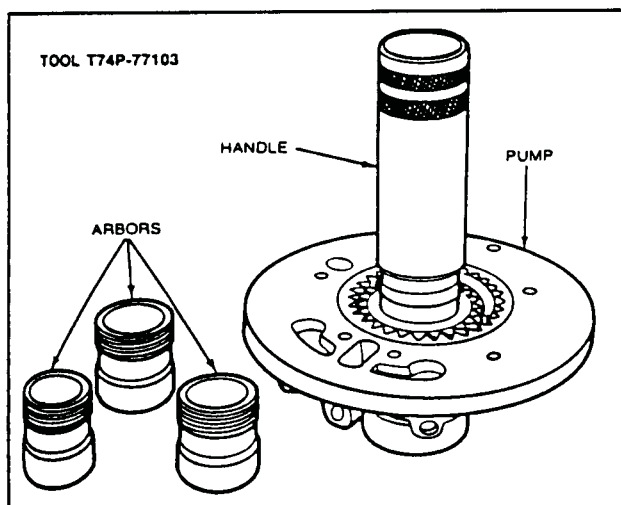

FIG. 49 Pump Alignment Tool T74P-77103-X Set
14. Tighten the bolts fingertight. Align the pump using Front Pump Alignment Set T74P-77103-X or equivalent (Fig. 49). **This tool must be used and the sleeve gauging surfaces must be in good condition. Otherwise the pump will not be aligned correctly with the converter housing; then seal leakage, pump gear breakage, or bushing failure will result.**